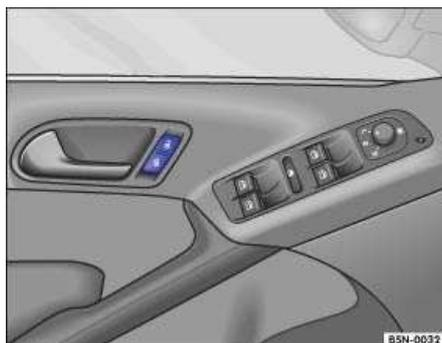

Fig. 22 Central locking button in the driver's door.
- Press the  button ⇒ Fig. 22 ⇒ .